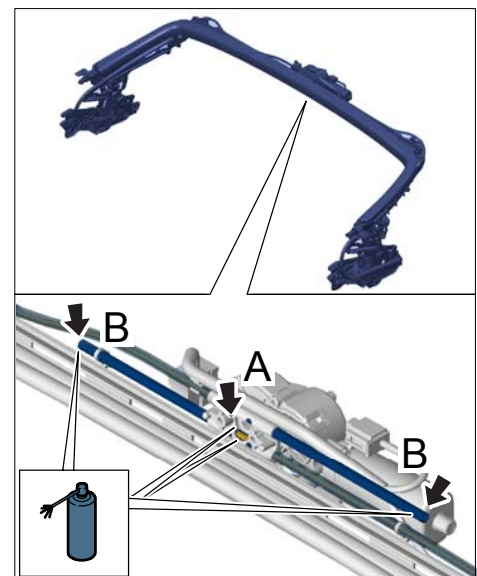

Figure 13
- 7.1 Guide spray pipe of the spraying can into the opening at the point where the pinion shaft engages $\Rightarrow$ Figure 13 -arrow A- and spray the drive shafts as far as possible with **Super Fin** spray-on grease, Part No. **000.043.207.16**.
- 7.2 Guide spray pipe of the spraying can into the openings at the tubing $\Rightarrow$ Figure 13 -arrows B- and spray the drive shafts as far as possible with spray-on grease.